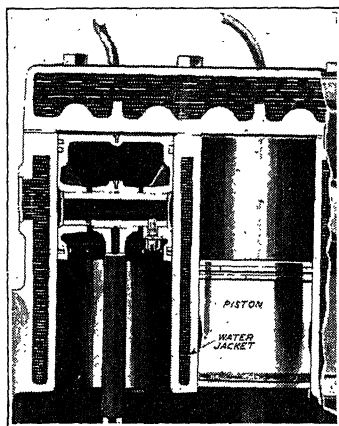

Fig. 10. Pontiac Cylinder Cooling System
**Pontiac Cylinder Cooling System.** In the 1936 Pontiac the water jackets, which surround the cylinder bores, are extended downwards and completely surround the cylinder bores, as shown in Fig. 10, which results in cooler cylinder walls. With this arrangement, all temperatures have been considerably reduced for high speed driving, which keeps the lubrication oil from being thinned out. This insures better lubrication with longer cylinder, piston, and piston-ring life.